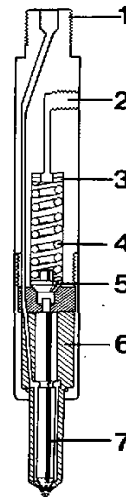

Fig. 115. Injector
Each injector consists mainly of a nozzle and a nozzle holder. When the fuel pressure increases to its set value (opening pressure) the nozzle needle (7, fig. 115), which is held against its seat by the thrust spring (4), is lifted and finely atomized fuel is sprayed into the engine via accurately calibrated holes in the nozzle sleeve.